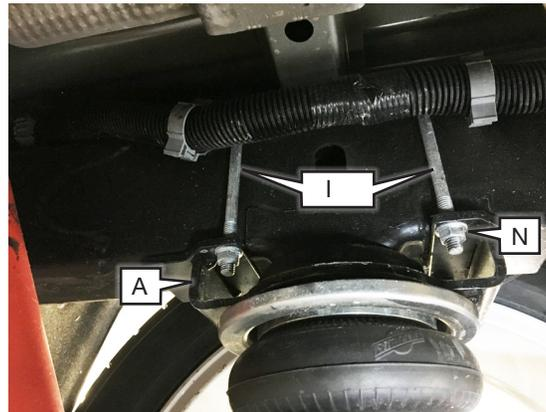

Fig. 21
2. Lower the vehicle or raise the axle while inserting the threaded portions of the U-bolts (I) through the corresponding holes in the upper brackets (A). Install flange nuts (N) finger-tight (Fig. 21).